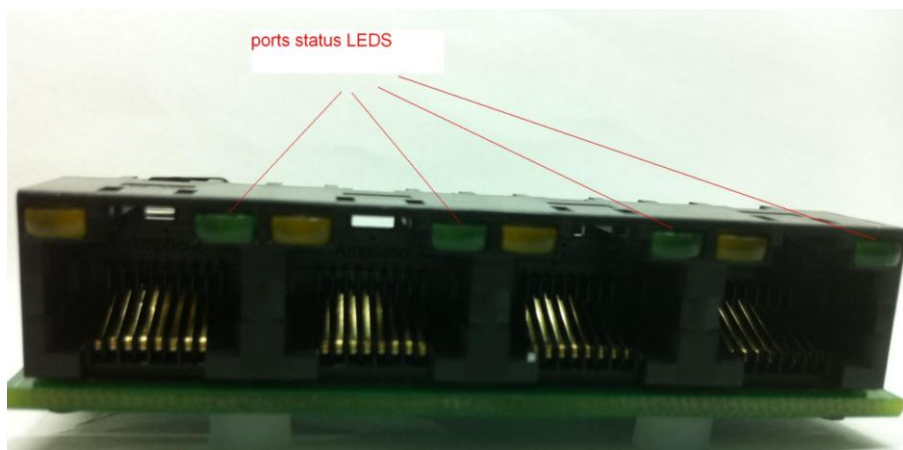

Figure 4: LEDs Indication
- **Port Status LED**– in front of each port in the RJ45 connector there is a green LED that indicates whether port is operating. See Figure 4